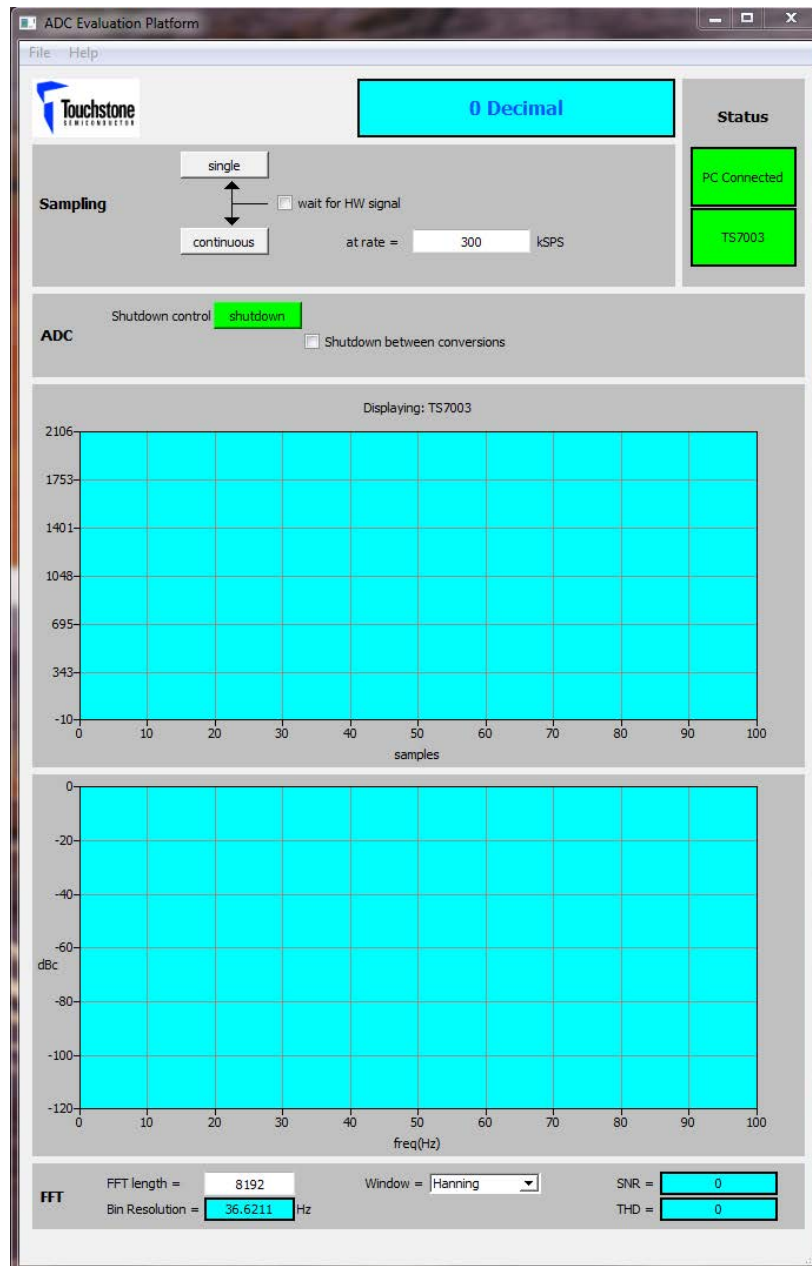

Figure 2. GUI with Nano River Tech Viperboard and TS7003 Demo Board Connected
6. To run the GUI, go to *Start > All Programs > TouchStoneEvalBoard 2.2.11 > 01 Touchstone Evaluation App*. Refer to Figure 4. The GUI will ask you if you wish to use the last configuration – Click No. Refer to Figure 2. After approximately three seconds, the "status" section on the top right hand side of the GUI screen should read "PC Connected" and the demo board type for the ADC should appear. For example, in Figure 2, the TS7003 demo board is used and as a result, the demo board type reads "TS7003".